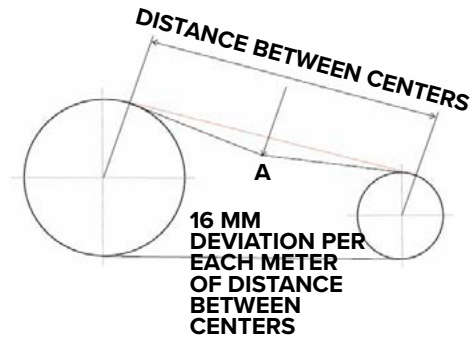

Figure 19
- The tension is correct when the deflection is between 5 and 10 millimeters at point A [Figure 19], taking into account the data given in the following table and Figure 19.
**NOTE:** Apply the force indicated in the table with the tensiometer at the midpoint of the center-to-center distance (Point A) [Figure 19]